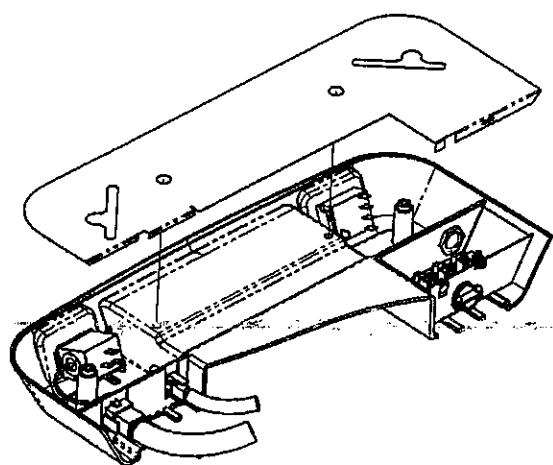

FIGURE 7
- E. Plug the roof top air conditioner electrical conduit into the 9 position receptacle located in the thermostat side of the ceiling assembly. If installing an Electric Heating Element, plug the heater cord into the 2 position receptacle (See Figure 7).
H. Place the metal control box shield over the thermostat, switch and field wiring boxes. Make certain that all wires are pushed into the control boxes or laying in the wireway between the thermostat and switch boxes and will not be pinched by the control box shield. Control box shield is properly installed when the two holes in the shield are aligned with the two screw holes in the ceiling assembly chute (See Figure 7).
J. The ceiling assembly shroud is curved to contour to a crowned ceiling. If installation is to a flat ceiling and gaps are present on the sides of the shroud, insert the four optional 3/4 inch screws (provided) through the mounting posts and secure them to the mounting frame above (See Figure 7, 8 & 9 for screw locations).